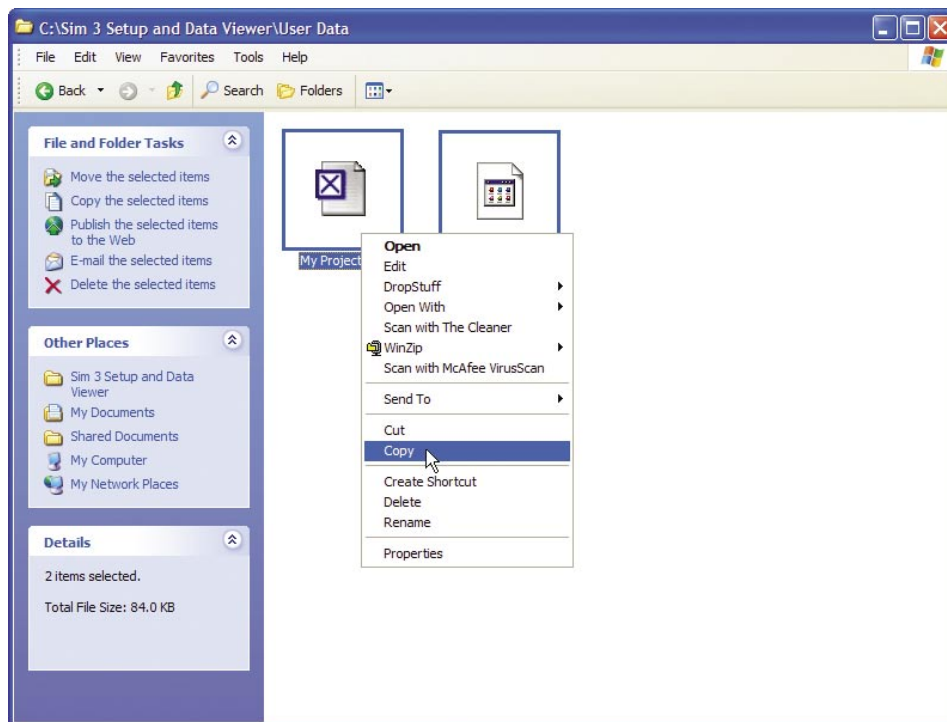

Figure 4.4. Copy the files in normal Windows fashion.
3. Open another Windows Explorer window by selecting **Programs > Accessories** from the Start menu. Locate and select the project files you wish to copy, then right-click and select **Copy** from the resulting pop-up menu. (Figure 4.4).